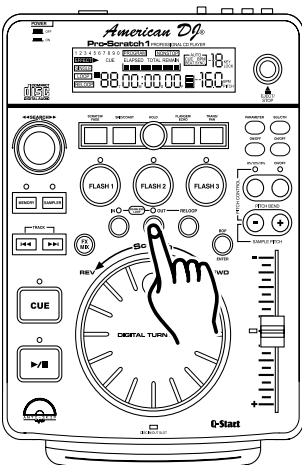

Figure 26
2) Press the **MEMORY BUCKET (7)**. The **MEMORY CUE BUTTON (1)** Red LED will glow indicating memory is ready to be stored.
3) Select one of the three **FLASH BUTTON (6)** you wish to store your loop in and press that button.
- 4) The red **MEMORY BUCKET (7)** LED will turn off, when your sample is locked into memory.
- 5) At this point your sample has been stored into memory. The original loop you used to create the sample will remain playing until the **OUT BUTTON (18)** is pressed (Figure 26).